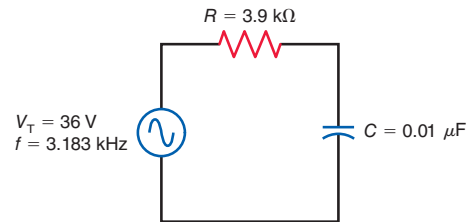

Figure 17-14
- 17.10 In Fig. 17-14, what happens to each of the following quantities if the frequency of the applied voltage increases?